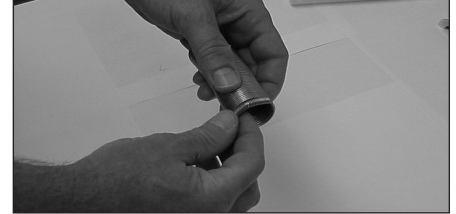

FIGURE 2: Insert the Inner Spring over one end of the Corona Ring.
2. Insert Inner Spring over one end of the Corona Ring (**Figure 2**).